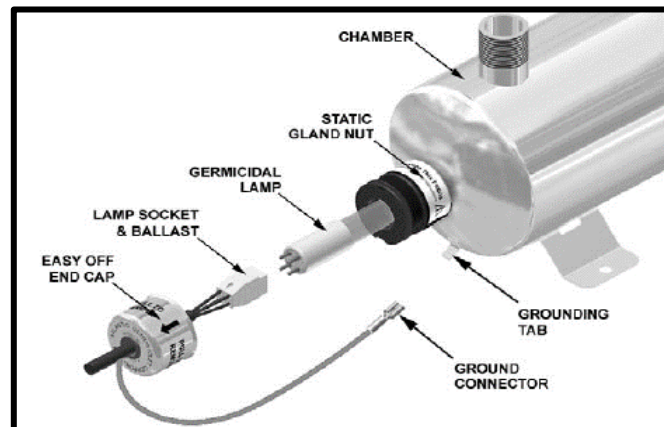

Figure 14. Schematic of the UVC lamp assembly
- An LED indicator light, located on the end opposite of the easy off end cap (depicted in Figure 14), provides visual indication of germicidal lamp operation and should be illuminated during the Shield 1500 operation. This indicator light does not, however, indicate the level of ultraviolet intensity or transmission through the water.